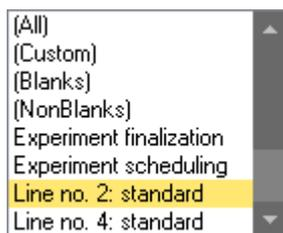

Figure 6-42. Log Messages filter drop-down menu in completed LabBook
A drop-down menu opens, see Figure 6-42.
2. From the drop-down menu, see Figure 6-42, select **(Custom)**.